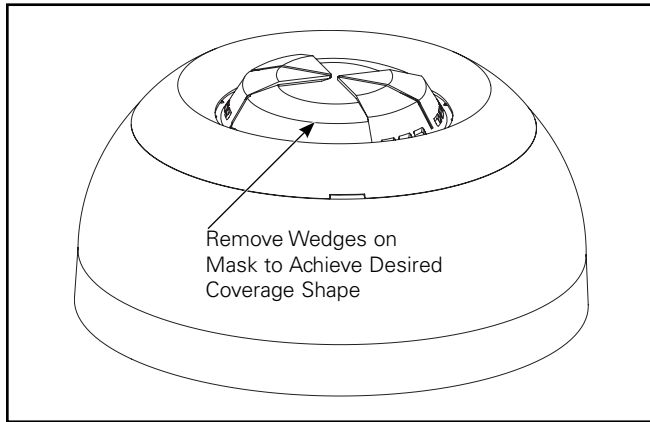

Figure 7.
4. Remove mask wedges to achieve desired coverage shape. (Figure 7.)